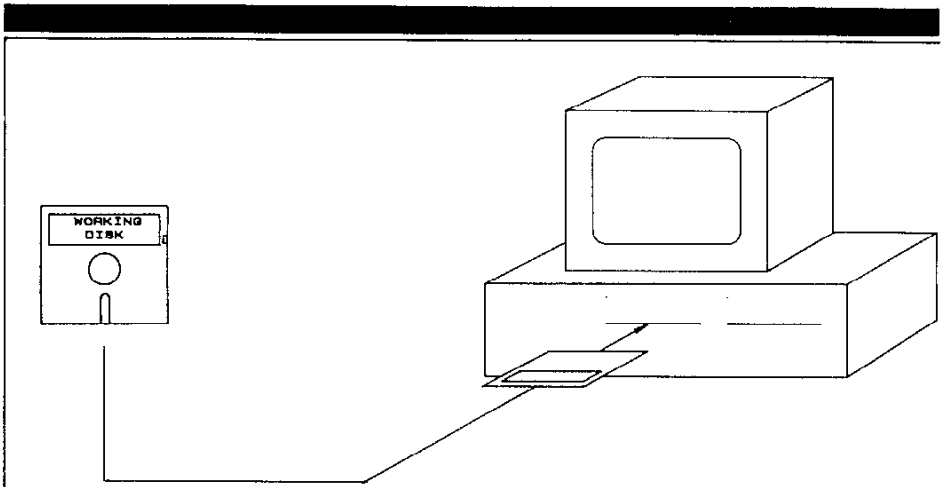

FIGURE 3.5
- Step 1 — At the A> prompt, insert the working disk in drive A (see Figure 3.5).